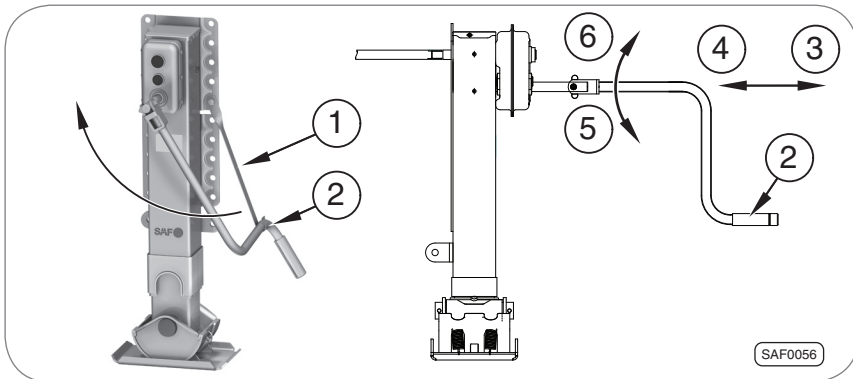

Fig. 6 · Operation of the support device (figure: SAF Titan)
The crank holder (fig. 6, item 1) is fastened either to the rear plate of the support device or to the vehicle frame (depending on how it is fitted) and is used to mount the crank handle (item 2).
The high gear (see page 12, fig. 6, item 3) is used to bridge the passage between the drive position and the floor.
The low gear (see page 12, fig. 6, item 4) is used to raise and lower the trailer vehicle.
1. Remove the crank handle from the crank holder and fold it out into the horizontal operating position (see page 12, fig 6).
2. Pull or push the crank handle into the desired gear (fig. 6). The gear engages noticeably into place.